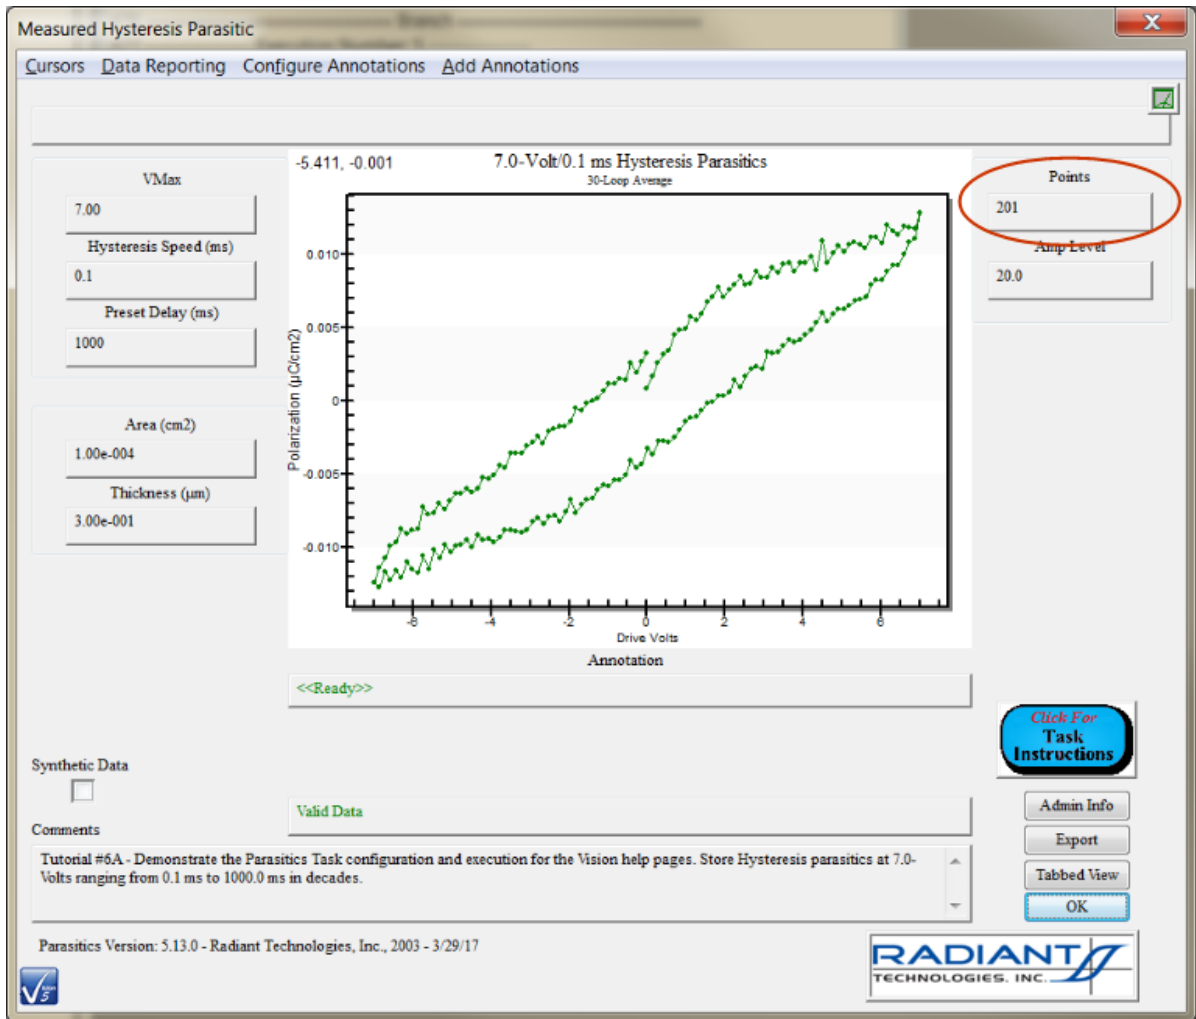
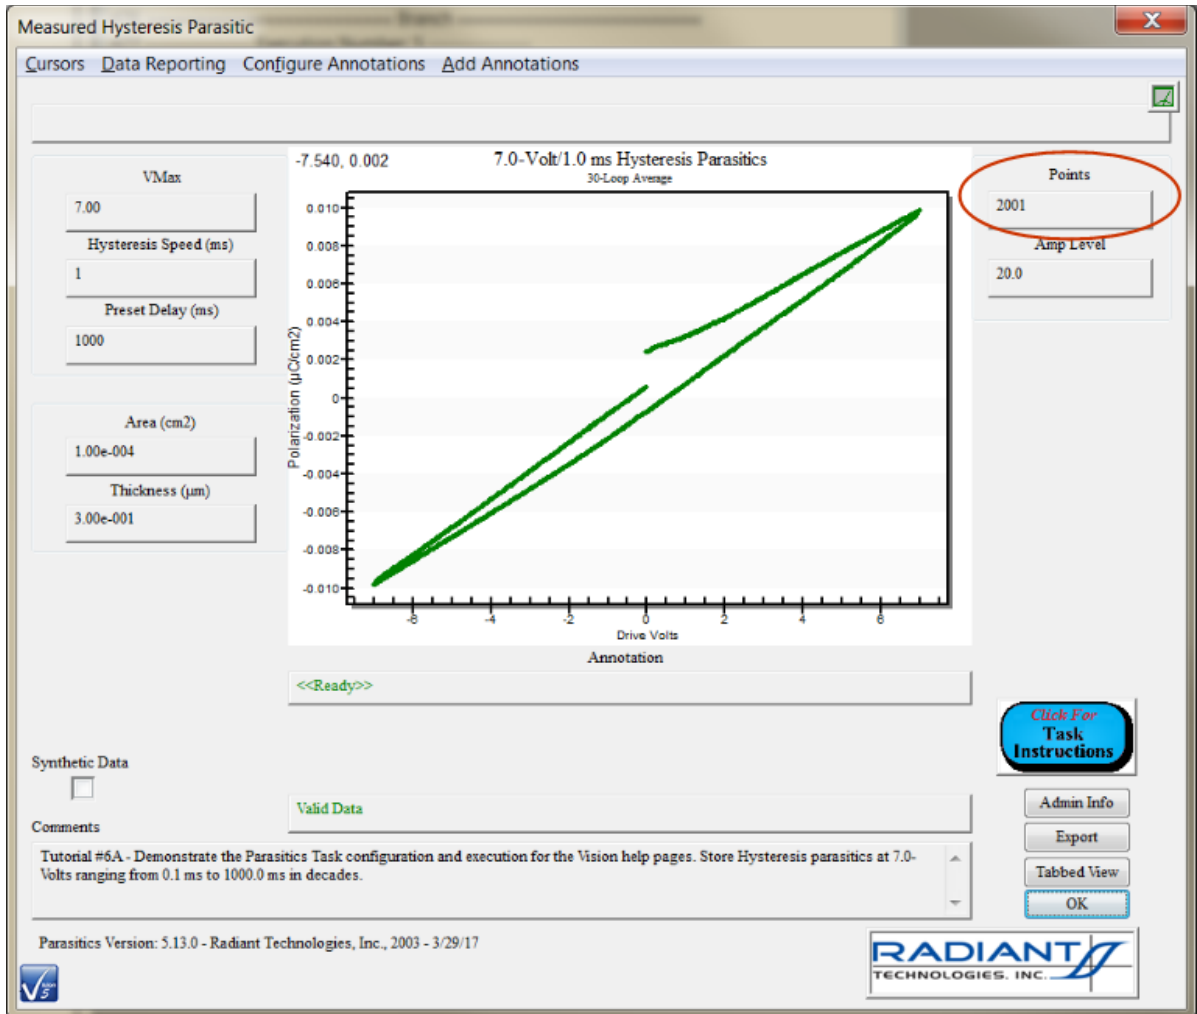
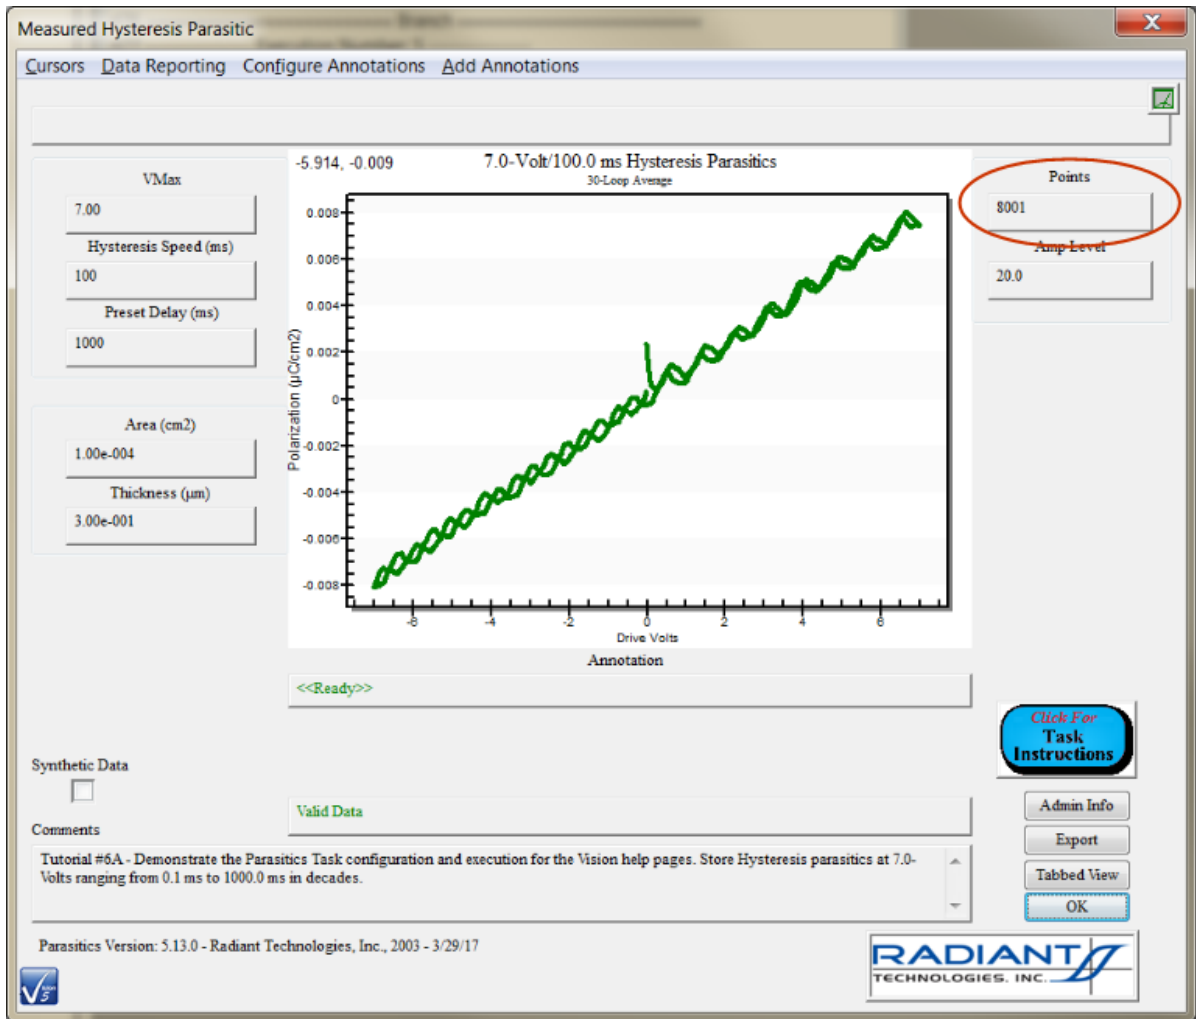
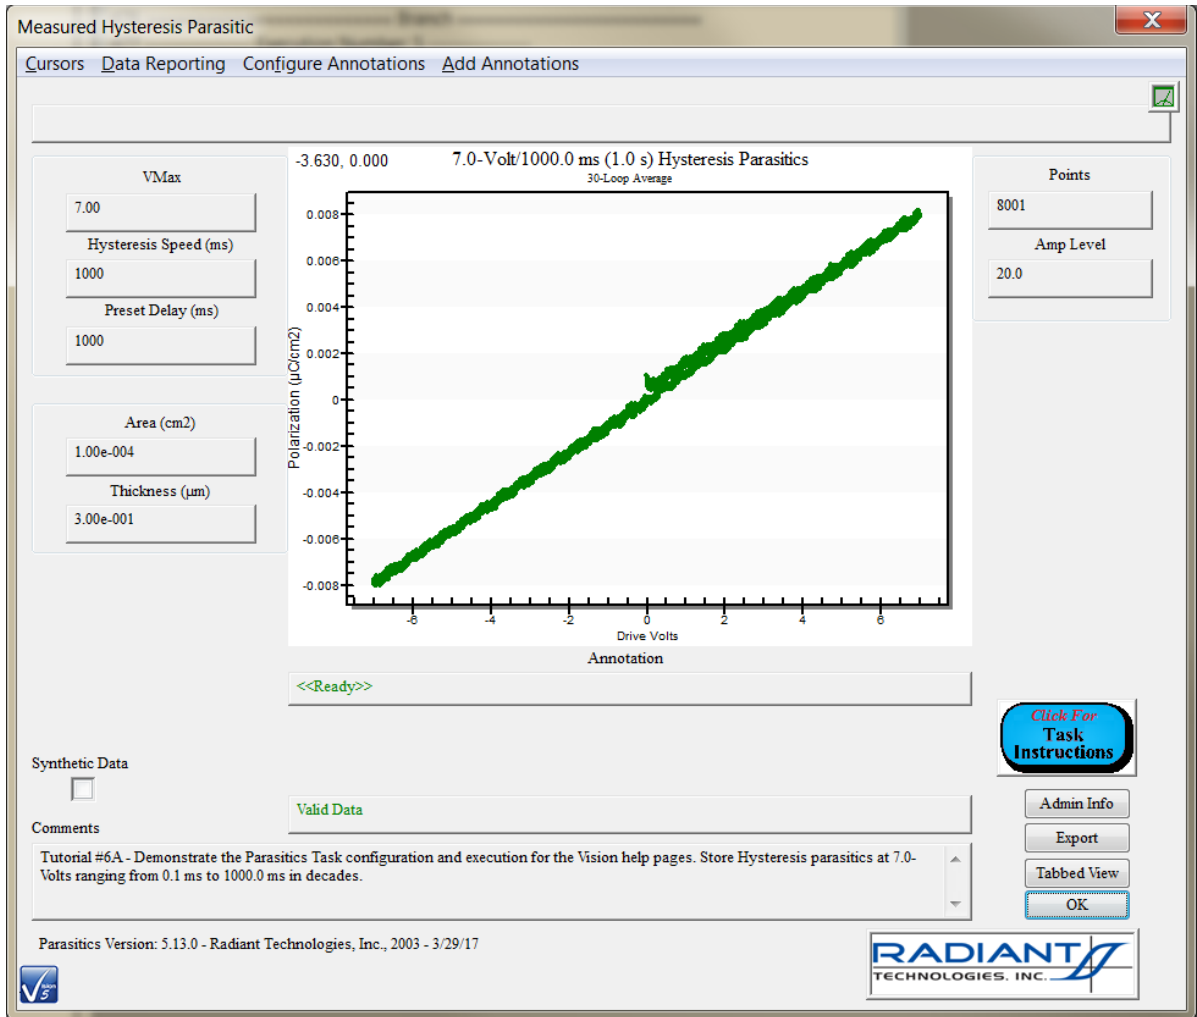

Figure 15 - 0.1 ms Data Recalled from the DataSet Archive. (Y-Axis Scale has been Adjusted to Put Data in Perspective.)
Figure 16 - 1.0 ms Data Recalled from the DataSet Archive. (Y-Axis Scale has not been Adjusted.)
Figure 18 - 100.0 ms Data Recalled from the DataSet Archive.
Figure 19 - 1000.0 ms Data Recalled from the DataSet Archive.
- Click *OK* . The plot configuration dialog will close and the recalled parasitic data will be displayed in a Hysteresis-specific plotting dialog. **Figures 15 through 19** show the plotted data for all measurements from 0.1 ms to 1000 ms (1 second). Note that the 100 ms plot of **Figure 18** is shows strong 60 Hz noise, apparent as a periodic ripple in the data. The 60 Hz contribution is also apparent in the magnitude and shape of the response in the faster measurements, especially **Figures 16 and 17**. In **Figure 19**, that noise has become